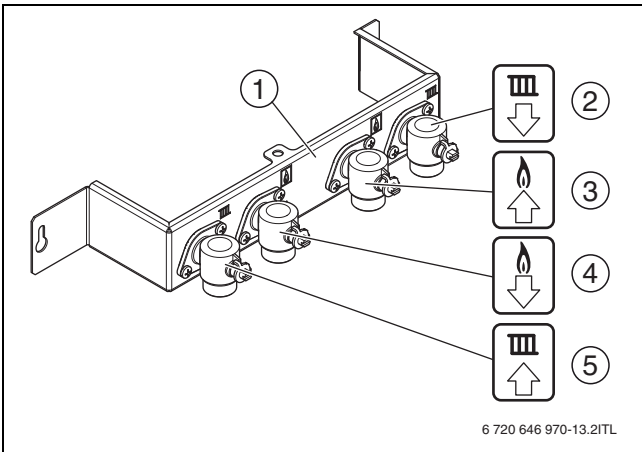

Fig. 21 Hybrid manager mounting plate
- ▶ Connect the heat source pipe work and that of the heating system to the mounting plate. Ensure your connections are correct (→ Fig. 21).